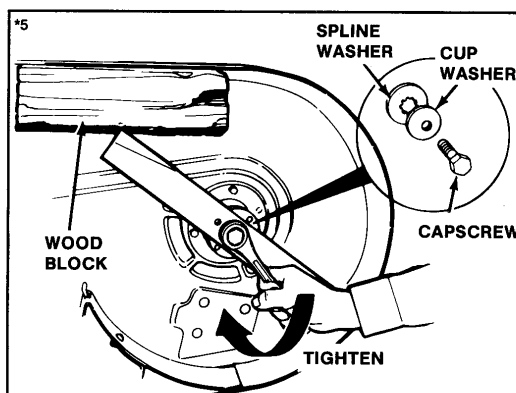

Figure 26. Installing Blade
7. Reinstall each blade with the tabs pointing up toward deck and secure with a capscrew, cup washer, and spline washer. Be sure all splines are aligned and washer is flush against blade. Use a wooden block to prevent blade rotation and torque capscrew to 50-70 ft. lbs. (68-76 N.m.) (figure 26).